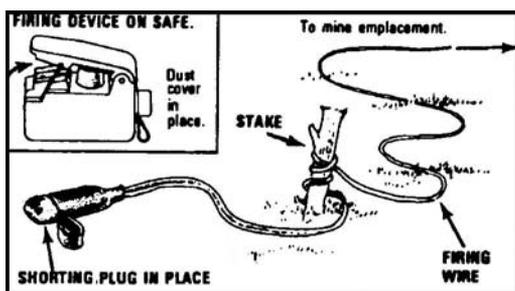

Figure 071-325-4425-4. Firing wire secured
a. Tie the shorting plug end of the firing wire to a fixed object such as a stake or tree at the firing position (figure 071-325-4425-4).